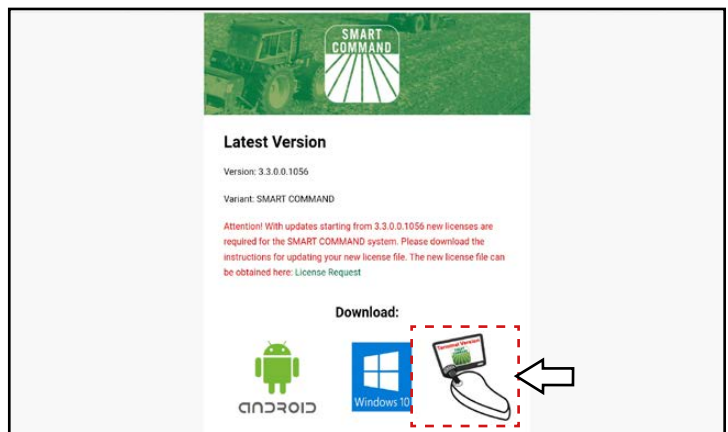

Fig. 150: Terminal update at updates.reichhardt.com
1. Open the Reichhardt update page in an internet browser on the PC or tablet (see Fig. 150):